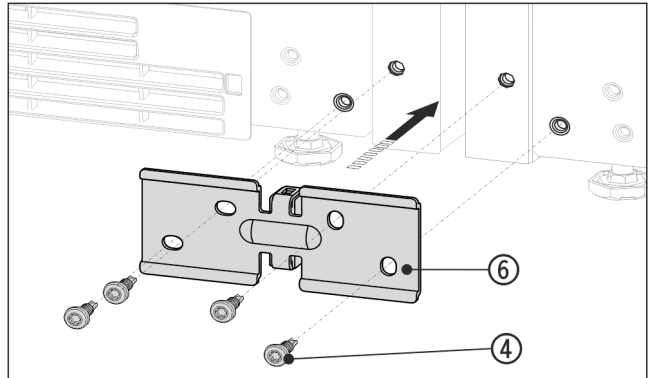

Fig. 14 Example illustration
- ▶ Slide the bracket Fig. 14 (6) on with the spacer between the appliances and screw in loosely with the 4 screws Fig. 14 (4).